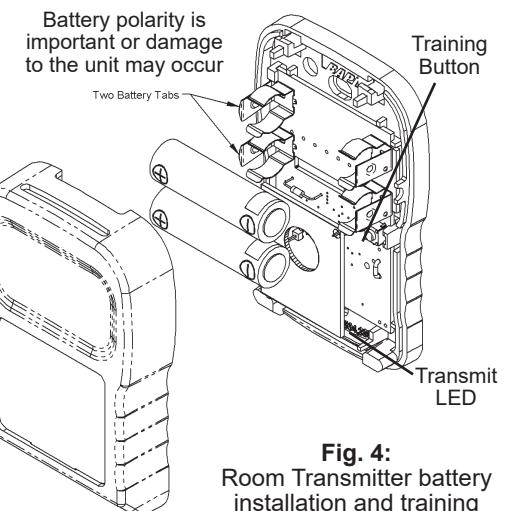
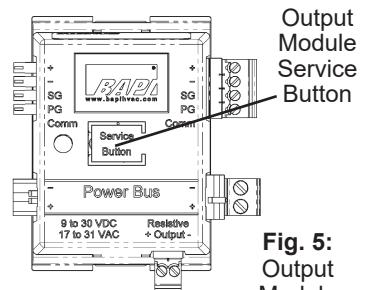

Fig. 4:
Fig. 5:
3. Remove the cover of the room transmitter and remove the battery tabs or install the batteries, observing polarity as shown in Fig 3. Or open the cover of the BAPI-Box on non-room transmitters and remove the battery tabs or install the batteries as shown in Fig 4. The "transmit LED" will flash about once every 20 seconds, indicating a transmission. (The flash is very quick.)
4. Press and hold down the "Service Button" on the top of the output module (Fig 5) that you wish to train. Then, press and release the "training button" (see Fig 3 & Fig 4) on the transmitter. When the output module receives the "training transmission" from the transmitter, the output module's red LED will light steady. Release the "Service Button" on the output module and the red LED will go out. The transmitter and output module are now trained to each other. During normal operation, the output module's LED will flash about once every 20 seconds indicating data reception from the transmitter trained to it.